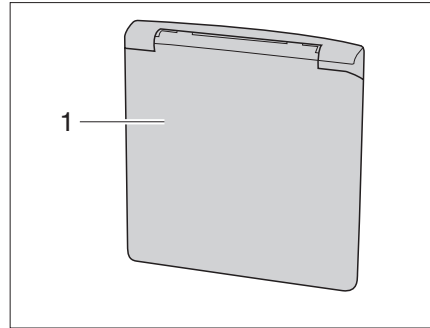

Fig. 9 Flap for 230 V connection
- Grip the external flap (Fig. 9,1) at the bottom and lift it upwards.
- Swivel the external flap (Fig. 9,1) downward and press it shut.